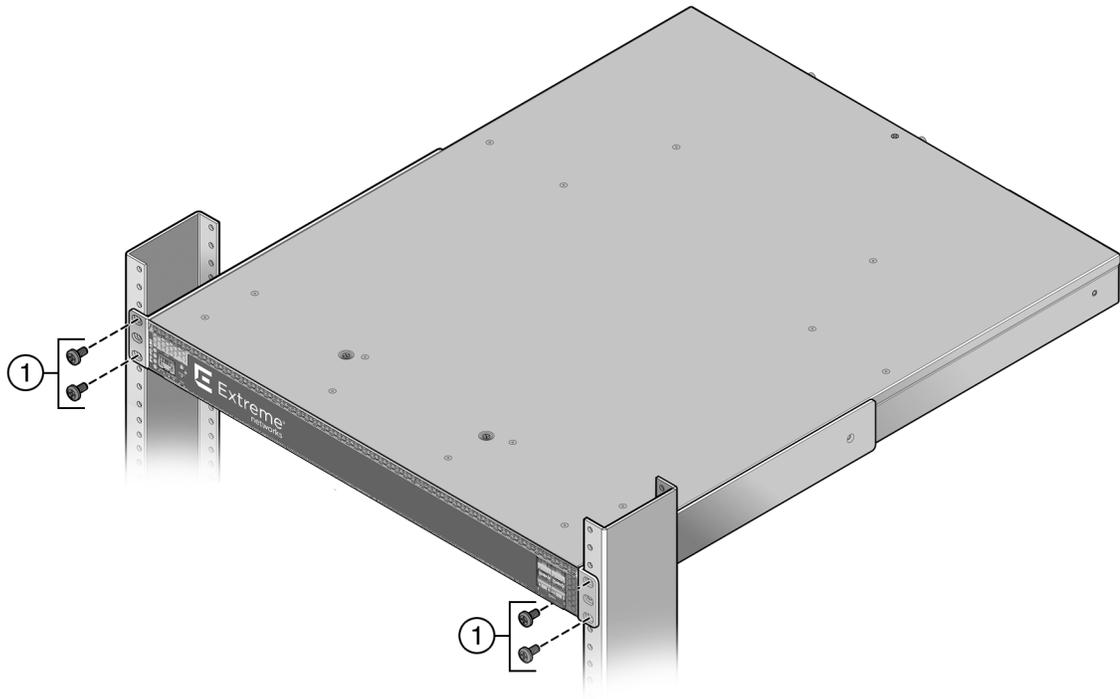

Figure 8: Securing the PV-FC-180 Application Sensor to the Rack in a Flush Mount Configuration
- 3 Secure the PV-FC-180 application sensor to each rack post with at least two screws or fasteners appropriate to the rack as shown in callout 1 of the appropriate figure (Figure 8: Securing the PV-